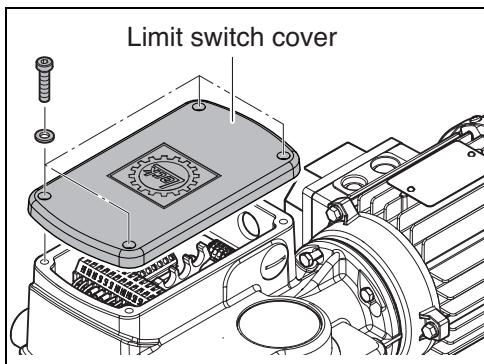

Fig. 31
► Remove the limit switch cover, (see Fig. 31). Use a Phillips screwdriver PH2, size 6.5.